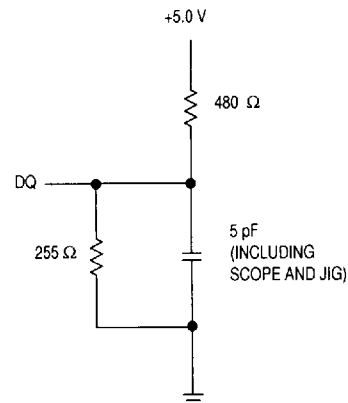

Figure 1B.
5. Transition is measured + 500 mV from steady-state voltage with load of Figure 1B. At any given voltage and temperature, t_{E1HQZmax} is less than t_{E1LQXmin}, t_{E2LQXmax} is less than t_{E2HQXmin}, and t_{GHQZmax} is less than t_{GLQXmin} for a given device and from device to device.
6. Transition is measured ± 500 mV from steady-state voltage with load of Figure 1B. This parameter is sampled and not 100% tested.